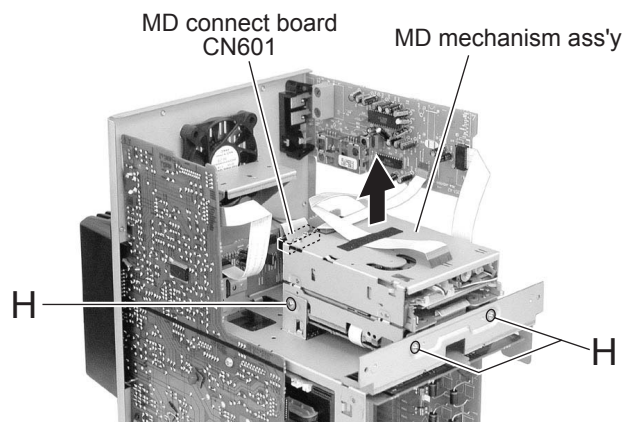

Fig.21
2.1.8 Removing the MD mechanism assembly (See Fig.21 and 22.)